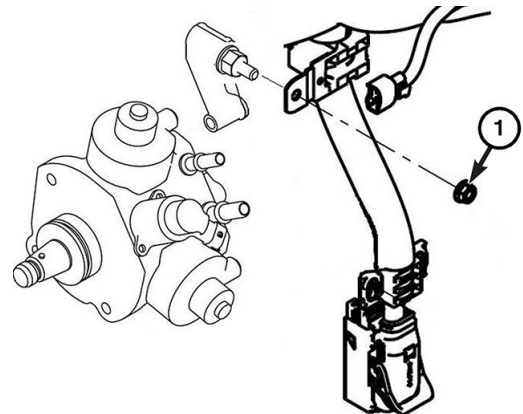

Figure 11 – HPFP Support Bracket Wiring
32. Remove the nut (1) securing the engine harness to the fuel injection pump support bracket (Figure 11).
33. Remove engine harness clip from the studded fuel pump support bracket bolt and position harness to the side (Figure 11).